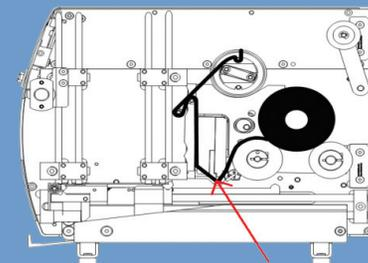

Figure 2
2. Using Isopropyl Alcohol Wipe or a lint free cloth moistened with Ethyl alcohol or Isopropyl alcohol rub the bottom of the print-head (heater line) firmly, several times until no residue is visible. See Figure 2.